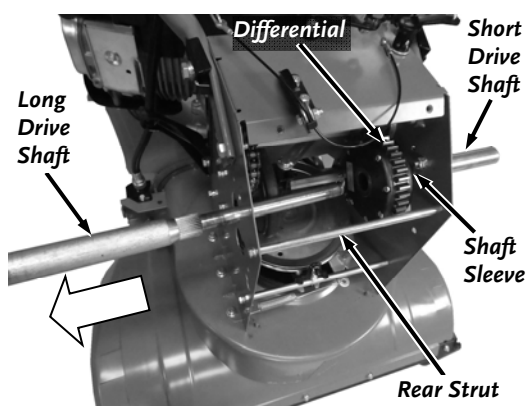

Figure 75
11. Remove the two rear Strut Bolts and Lock Washers using a 10mm Wrench and remove the Strut (**Figure 75**).
7. Install the rear Strut (**Figure 75**).